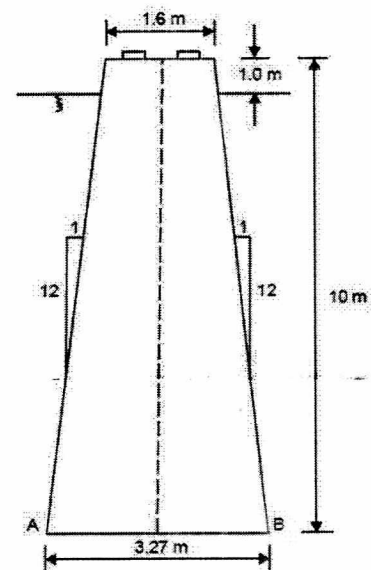

Fig. 2 Section of the pier
8. Verify the adequacy of the dimensions for the pier shown in Fig.2. The following details are available: (5)